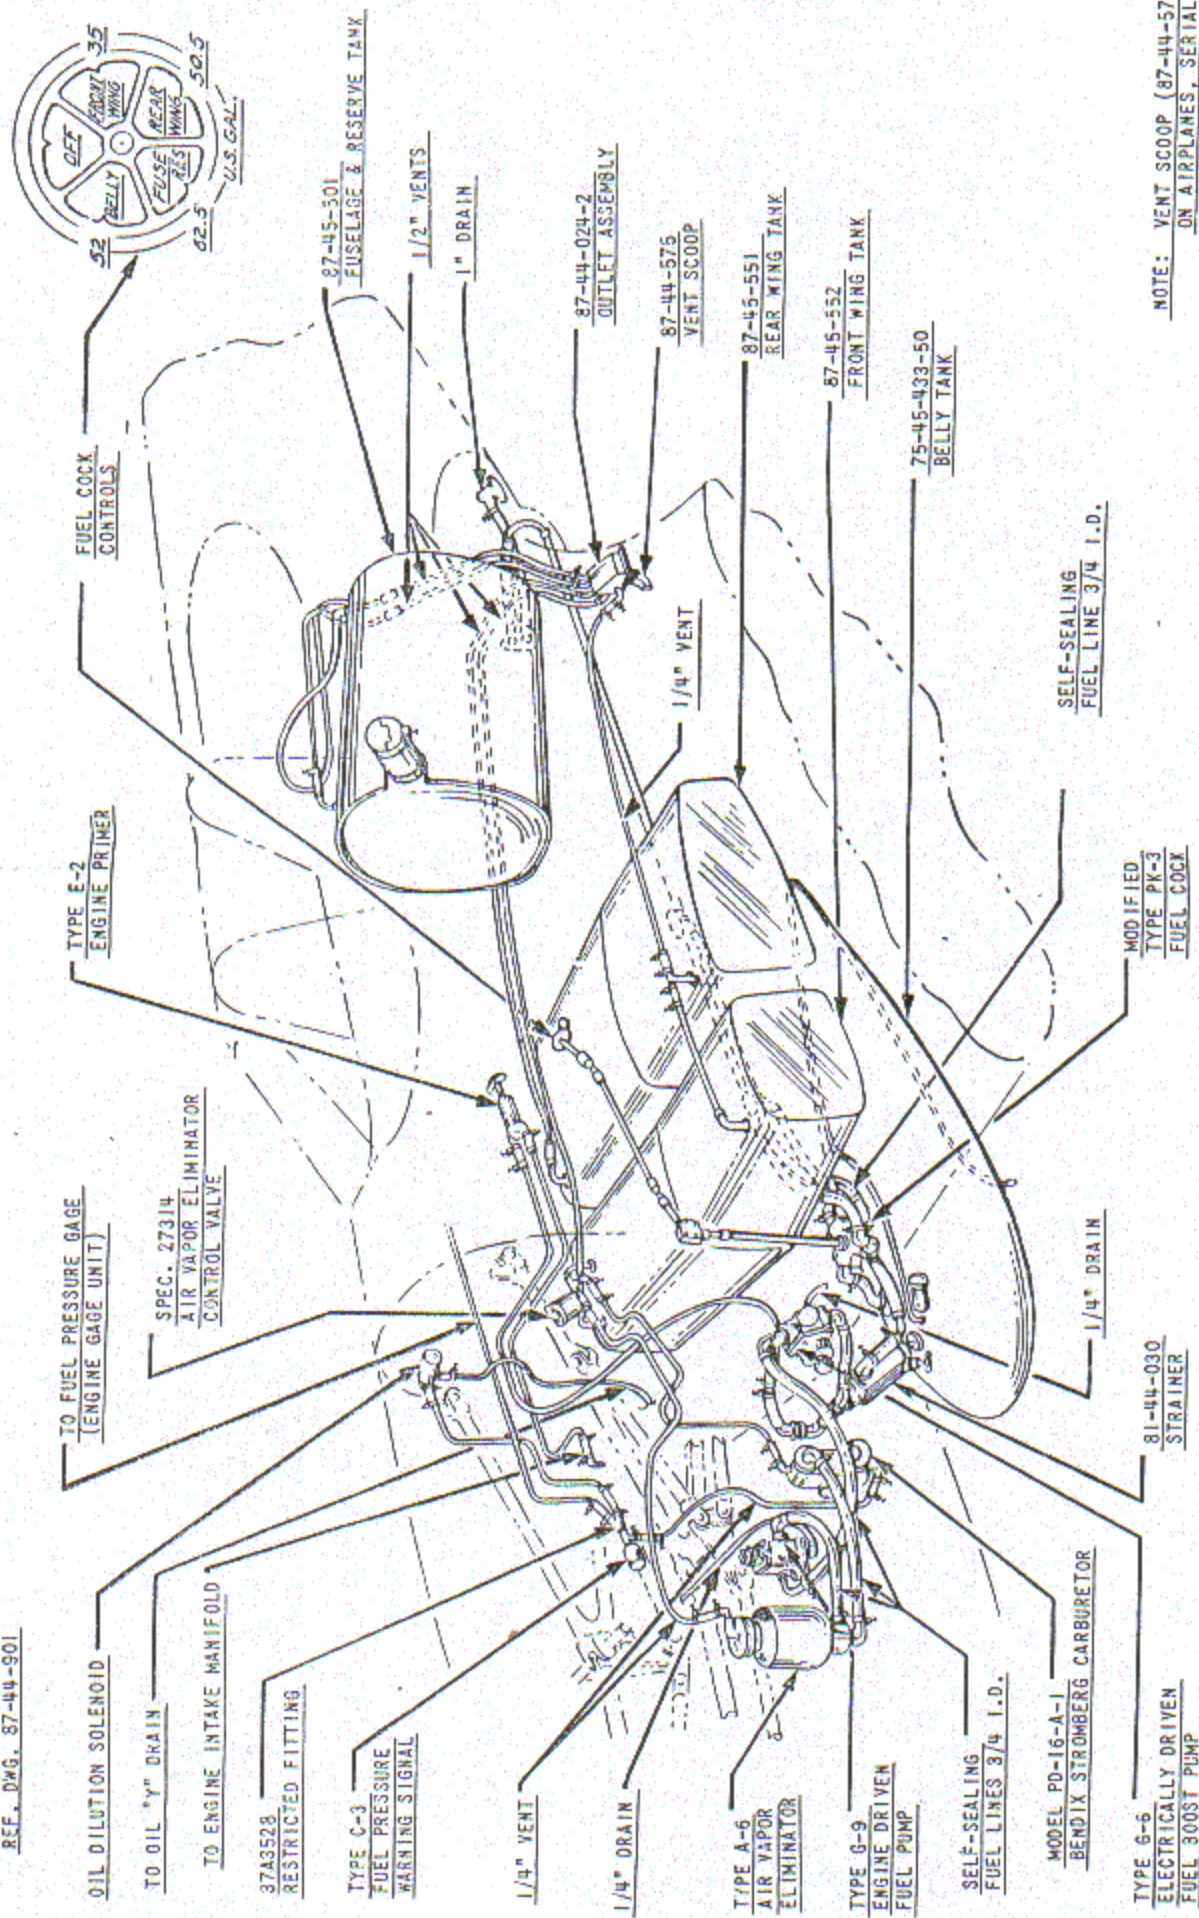

FIG 63 - FUEL SYSTEM
a. General. - (1) Carburetor: The Rolls Royce V-1650-1 engine is equipped with a Bendix-Stromberg up-draft pressure injection type carburetor (Model PD-16-A-1) which incorporates automatic altitude control and a mixture regulator having four main control lever settings: "FULL RICH", "AUTO. RICH", "AUTO. LEAN", and "IDLE CUT-OFF". The mixture can be manually adjusted by movement of the mixture control lever between "AUTO. RICH" and "AUTO. LEAN". Automatic altitude mixture control is also maintained for any fixed position of the control lever between "AUTO. RICH" and "AUTO. LEAN".
(2) Fuel Tanks: There are three fuel tanks equipped with self-sealing fuel cells, and one belly tank, having a total capacity of 200 U.S. gallons. The fuselage and reserve tank located aft of the armor plate installation at Sta. #5, and forward of the fuselage access door, carries a regular and the reserve fuel supply. The two wing tanks (front and rear), located within the wing panel below the cockpit floor, carry the remainder of the regular fuel supply. The belly tank, swung below the wing panel along the center line of the airplane, carries the auxiliary fuel supply. Fuel tank capacities are given on the fuel system diagram, Figure 63.